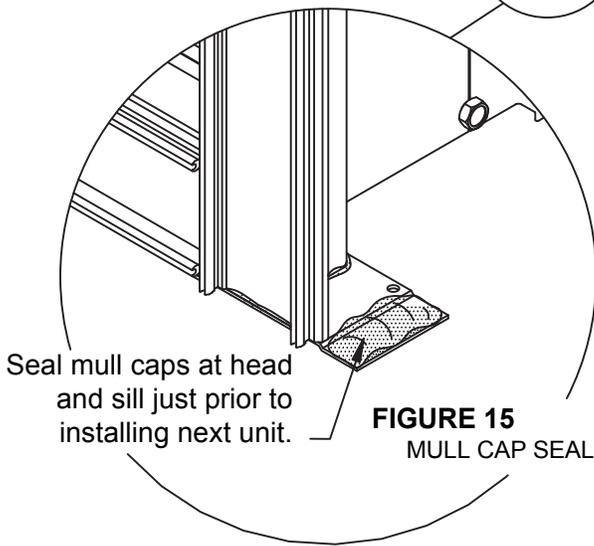

FIGURE 15
- 3.4 Seal mull caps at head and sill. SEE FIGURE 15, page 16. This is a critical seal and care must be taken to insure that a proper seal is formed. Excess sealant should be tooled around glazing pocket and from the joint side of the connection to insure a full seal is made between the mull cap and horizontal member. SEE FIGURE 14, page 15.
Install unit making sure it is plumb and level. Anchor wall as shown in **FIGURE 12, page 14**. Seal mull caps at head and sill as shown in **FIGURE 15**.
Once first unit is installed, apply sealant to each mull cap as shown in **FIGURE 15**. Then carefully locate unit between mull caps so that the sealant at the mull caps is not scrapped off. Slide into position and snap in place. Use a furniture clamp to assist in snapping mullion halves, starting at ends and working towards the center. Once unit is in place, add sealant around end caps and tool sealant between mullion and caps.